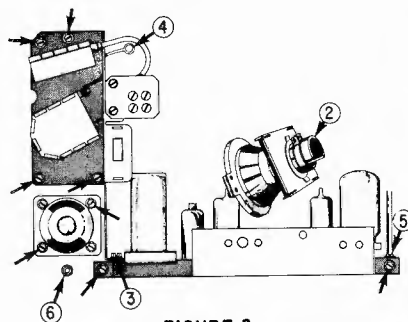

FIGURE 2
- Remove control knobs and nut which secures earphone jack (Figure 2, Item 6) from the front of the set.
- Remove chassis mounting screws (as indicated by the unnumbered arrows in Figure 2).
- Remove the width device and yoke assembly from the neck of the CRT (refer to Figure 2, Item 2).
- Remove screw (as indicated in Figure 2, Item 3) and remove ground wire, then replace screw.
- Unsolder ground strap from bracket as shown in Figure 2, Item 4. (DO NOT REMOVE SCREW!)
- Loosen screw (refer to Figure 2, Item 5) and remove chassis brace.